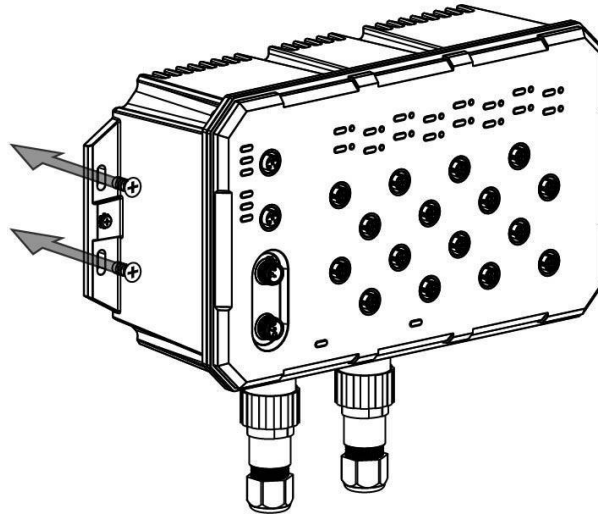

Figure 3.1: The Rear Side of the Switch
Follow the steps below to mount the industrial Ethernet switch to a wall using the screw holes as shown below in Figure 3.1.
Step 3. Insert the screws through the screw holes on the switch and screw the switch into the wall. Shown above in Figure 3.1.